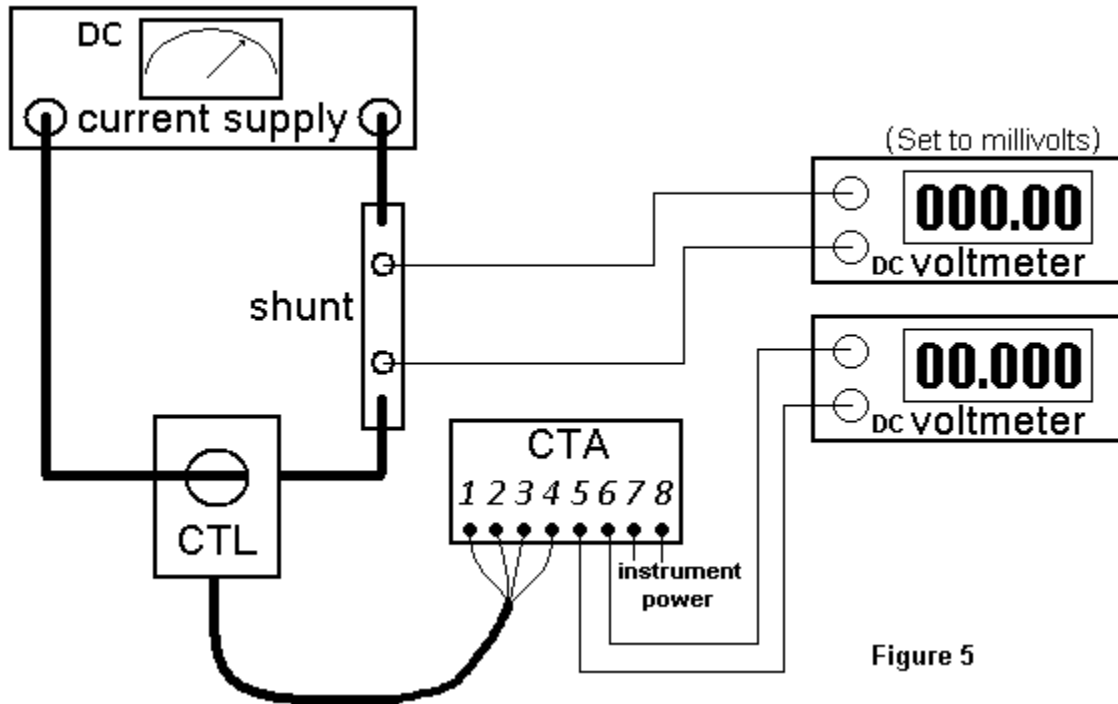

Figure 5
- DC current supply capable of supplying full window current for the model-sets with a **Direct-Measuring CTA:** (CTA201*, CTA212*). Figure 5.
- Current shunt. (typical outputs are 50mV or 100mV representing full rated current). For DC calibration the recommended shunt and metering source with an accuracy of 0.1%. Figure 5.
- Two Volt-meters. The meter with the highest resolution is recommended. Figure 5 or 8.
- **Precision resistor. (for calibrations with CTA outputs of 1mA_{dc}, 4-20mA_{dc} or 4-12-20mA_{dc} only) Recommended accuracy: 0.1%. Figure 5 or 8. (Resistor not shown).